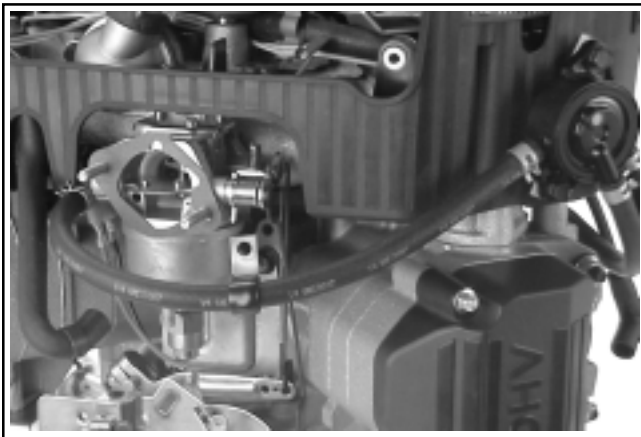

Figure 11-100. Hose Connected with Clip Loose.
2. Slide the retaining clip (if removed previously) with the loop down and out, onto the fuel pump outlet hose for mounting later. Attach the outlet hose from the pump to the carburetor inlet, and the pulse hose to the crankcase fitting. See Figure 11-100. Secure on each end with the respective clamp. Connect the inlet line (with the fuel filter) after reassembly is completed.